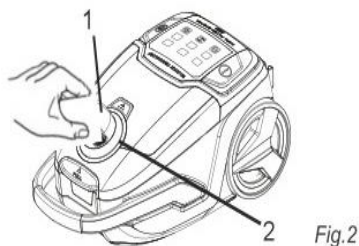

Fig.2
1. Insert the end of the suction hose (Fig. 2/1) in the intake opening (Fig. 2/2) into the intake opening of the vacuum cleaner, until it locks with an audible click.